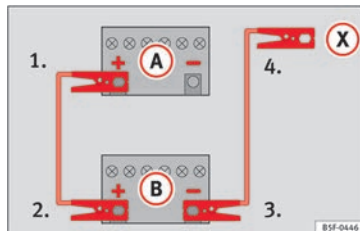

Fig. 77 Diagram of connections for vehicles without Start Stop system
2. Connect one end of the **red** jump lead to the positive (+) terminal of the vehicle with the flat battery **(A)** » **Fig. 77**.
4. *For vehicles without Start-Stop system:* connect one end of the **black** jump lead to the negative terminal (-) of the vehicle providing the current **(B)** » **Fig. 77**.